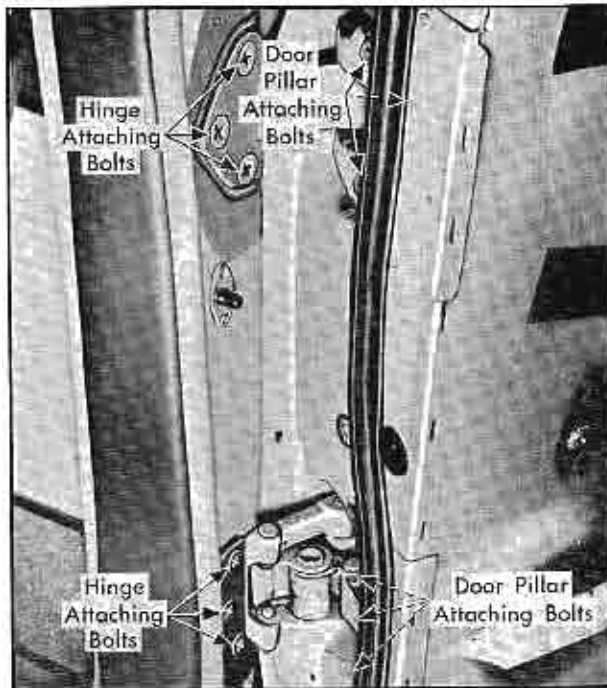

Fig. 3-17 Front Door Hinge Removal
a. On four (4) door styles, remove smaller loading hole cover. On two (2) door styles, remove both loading hole covers.
b. Remove two (2) screws securing electrical conduit and slide conduit toward front body hinge pillar to expose wiring harness.
7. With door properly supported, remove door attaching bolts securing upper and lower hinge to front body hinge pillar or bolts securing door to hinge straps, Fig. 3-17, depending on what method of removal is being used.